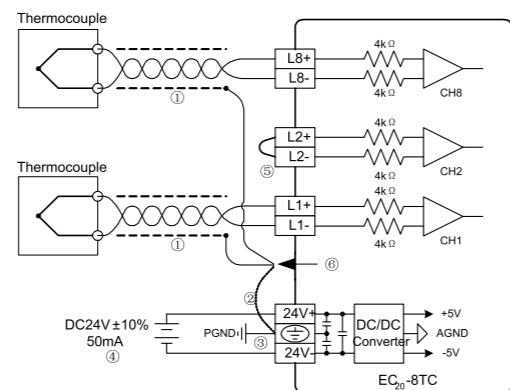

Figure 1-4 IVC-EH-4TC/8TC user terminal wiring diagram
Figure 1-4 shows the user terminal wiring requirements. Pay attention to the following seven aspects:
- The labels ① to ⑥ in Figure 1-4 indicate the connection that you need to pay special attention to.